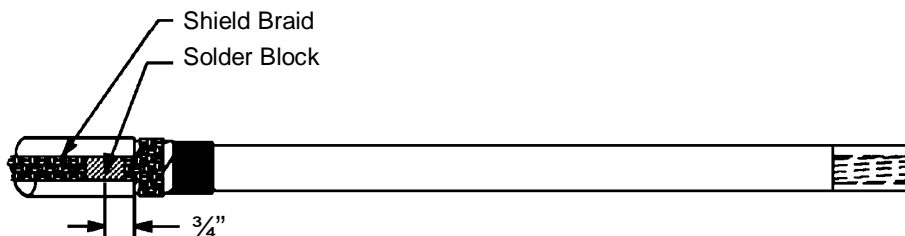

Figure 2
3. Attach a shield ground braid to the cable metallic tape shield per Utility instruction. At a point 3/4" from the cable jacket end, install a 1 inch wide solder block in the ground braid (**Figure 2**).